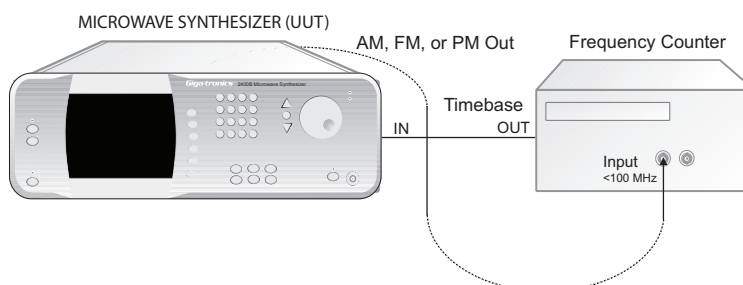

Figure 4-10: Internal Modulation Generator Tests
1. Connect the test equipment and UUT as shown in Figure 4-10. Connect a BNC cable from the AM Out connector to the Band 1, BNC connector of the frequency counter
1. Connect the test equipment and UUT as shown in Figure 4-10. Connect a BNC cable from the FM Out connector to the Band 1, BNC connector of the frequency counter.
1. Connect the test equipment and UUT as shown in Figure 4-10. Press the Display Time button on the Frequency Counter. Connect a BNC cable from the PM Out connector to the Band 1, BNC connector of the frequency counter